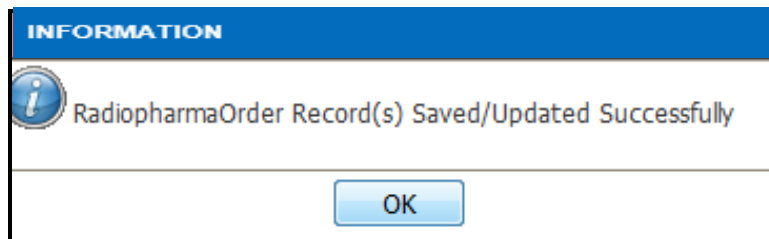

Figure 3.4-9 Save Record Alert Message
- Click on the  button to save record as per Figure 3.4-9.